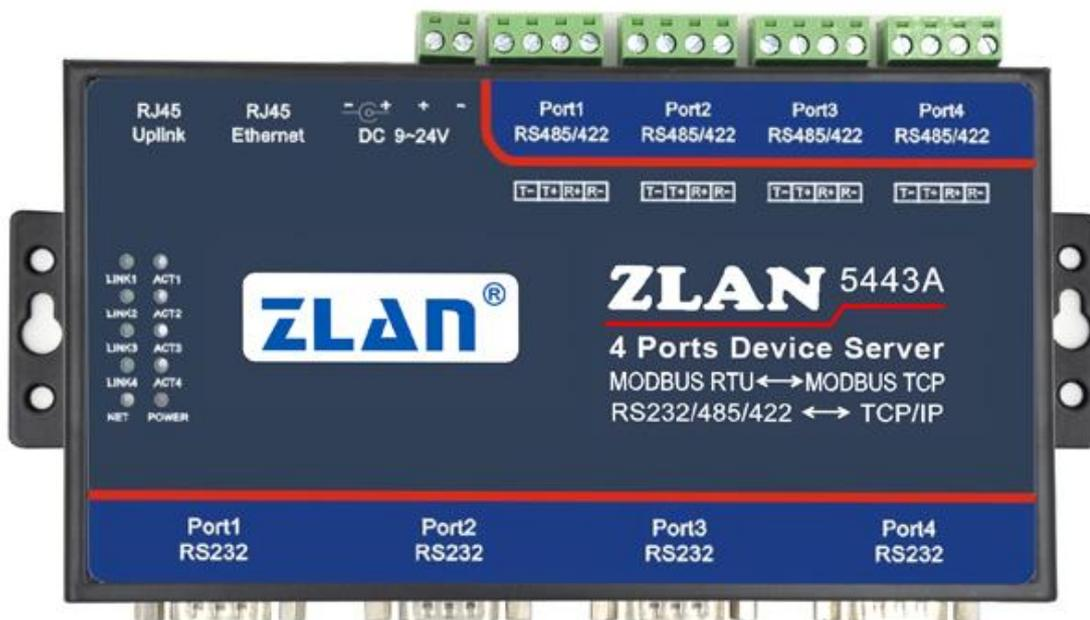

Figure 3 ZLAN5443A Front View
The front view of ZLAN5443A is shown as FIG. 3.
- a) **485/422 serial port:** when used as 485, only 2 lines are connected to it, and 4 wires should be connected when used as 422. The line sequence is shown in FIG. 3.